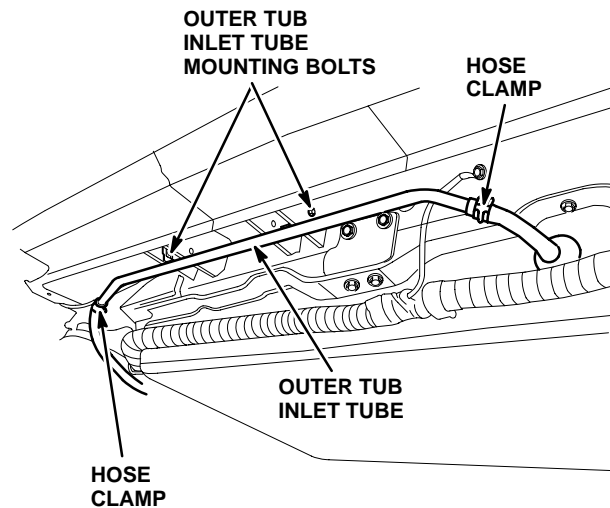

Fig. 17 Outer Tub Outlet Tube
- (5) Disconnect battery tub inline connector.
- (6) Support BIC and remove mounting bolts (3).
- (7) Remove BIC.
- (8) Cut tie strap and remove harness from BIC to service disconnect switch.
- (9) Cut tie straps and remove charge cable.
- (10) Disconnect battery tub fan hose.
- (11) Position drain pan below left side battery tub coolant hose. Disconnect left side coolant hose from outer tub outlet tube and rotate hose to drain downward into pan (fig. 17). Allow to drain until coolant stops flowing out of tub fitting.